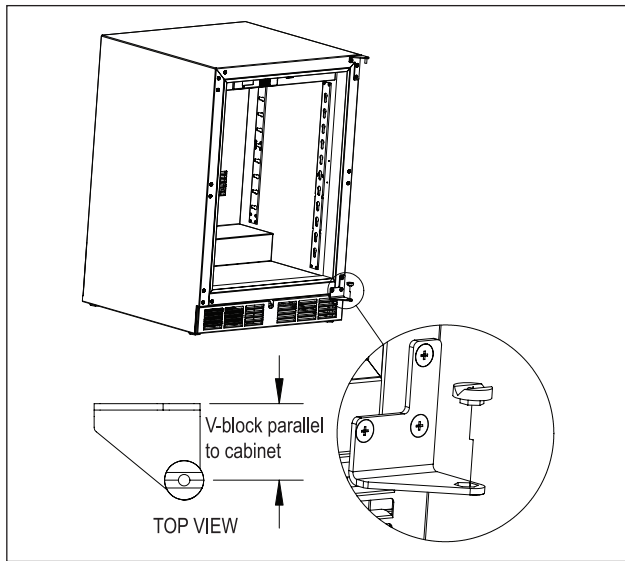

Figure 15. Installing V-Block
12) Place the lower V-block into the lower cabinet hinge with the notch parallel to the cabinet (Fig. 15).